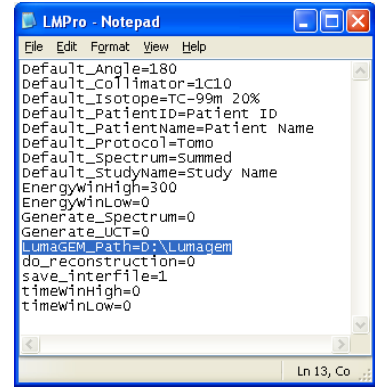

Figure 2.6.2 The LMPro.ini file.
- If *ColorSPECT* is enabled, open the file *C:\Program Files\FLEX SPECT\LMPro.ini* with a text editor. In the “*LumaGEM_Path*” parameter, enter the installation computer’s set-up (typically, this will be *D:\LumaGEM*), as shown in Figure 2.6.2).